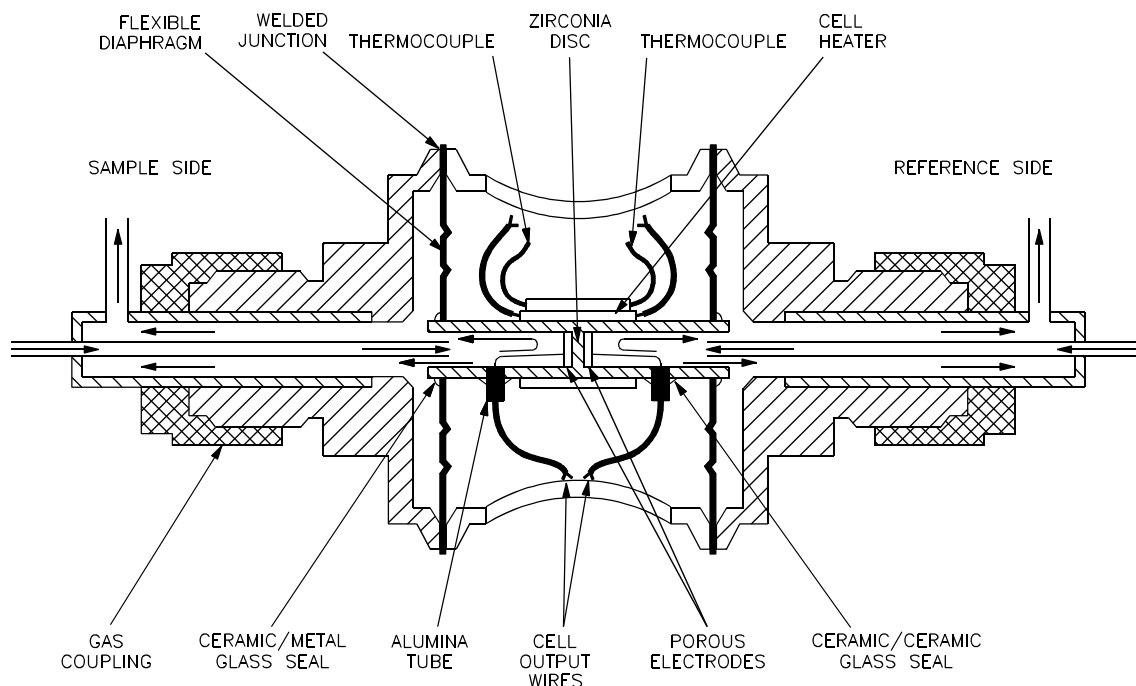

Figure 6.3 Servomex Zirconia Oxygen Sensor
The Servomex (R) zirconia sensor (Figure 6.3) is manufactured using yttria stabilised zirconia. When this material is heated to a temperature above 600°C it will conduct oxygen ions. The oxygen ion conductivity increases exponentially with temperature. The sensor consists of a disc of yttria stabilised zirconia mounted in a tube of the same material. The faces of the disc are coated with platinum and the assembly is mounted in a small temperature controlled tubular oven.